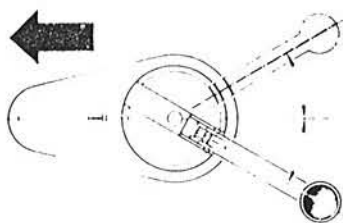

Fig. 11.23 Checking the sunroof handle alignment (Sec 34)
- (a) Pull the button down and turn the handle fully clockwise, which should now be approximately 30 degrees ahead of its original position opposite the cup of the handle (Fig. 11.23).